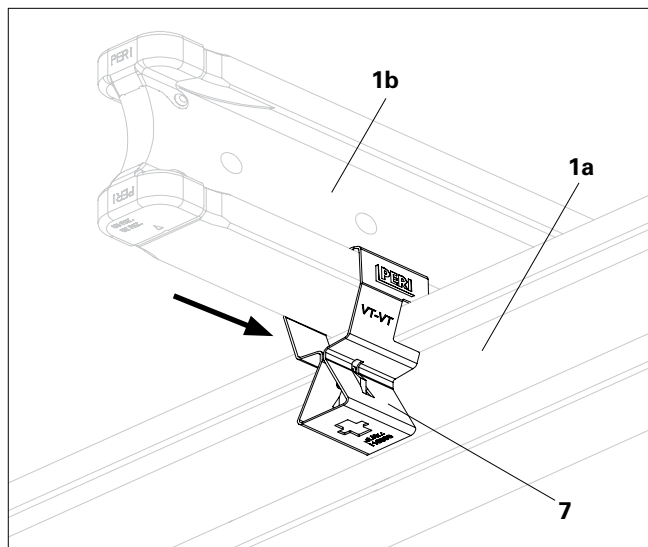

Fig. A4.08
1. From the end of the girder, push the Flexclip (7) onto the cross girder (1b) (bottom chord) by hand until it rests against the joint.
2. The cross girder is now secure. (Fig. A4.08)